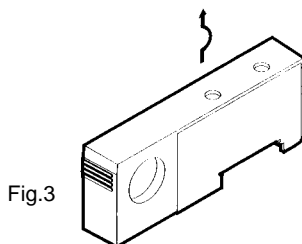

Fig. 3
- (1) Open the cover of the end block wiring duct.
- (2) Loosen the screw by 6 to 7 rotations, and pull out the connection key.
- (3) Shift the end block 4 mm or more, and pull it in the direction shown in Fig. 3 to remove it.